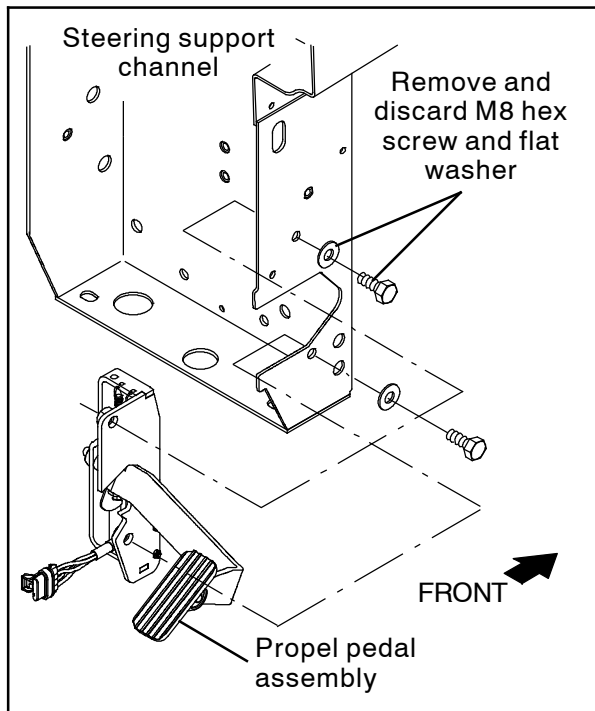

FIG. 5
- Remove and discard the top M8 hex screw and flat washer securing the propel pedal assembly to the machine. (Fig. 5)